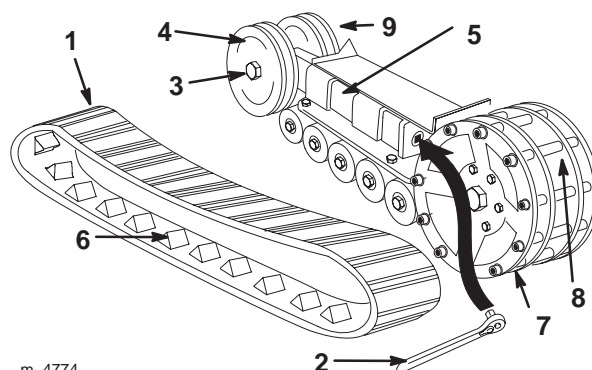

Figure 2
5. Push the tension wheel toward the rear of the unit to move the tensioner tube against the frame (Fig. 2). (If it does not touch the frame, continue turning the tensioning screw until it does.)
6. Remove the nut securing the outer tension wheel and remove and discard the wheel (Fig. 2).
7. Remove the track (Fig. 2).
12. Install the inner tension wheel and secure it with a new nut (Fig. 2).
14. Install the track, ensuring that the lugs in the track fit between the spacers in the middle of the drive sprocket (Fig. 2).
15. Install the outer tension wheel and secure it with a new nut (Fig. 2).